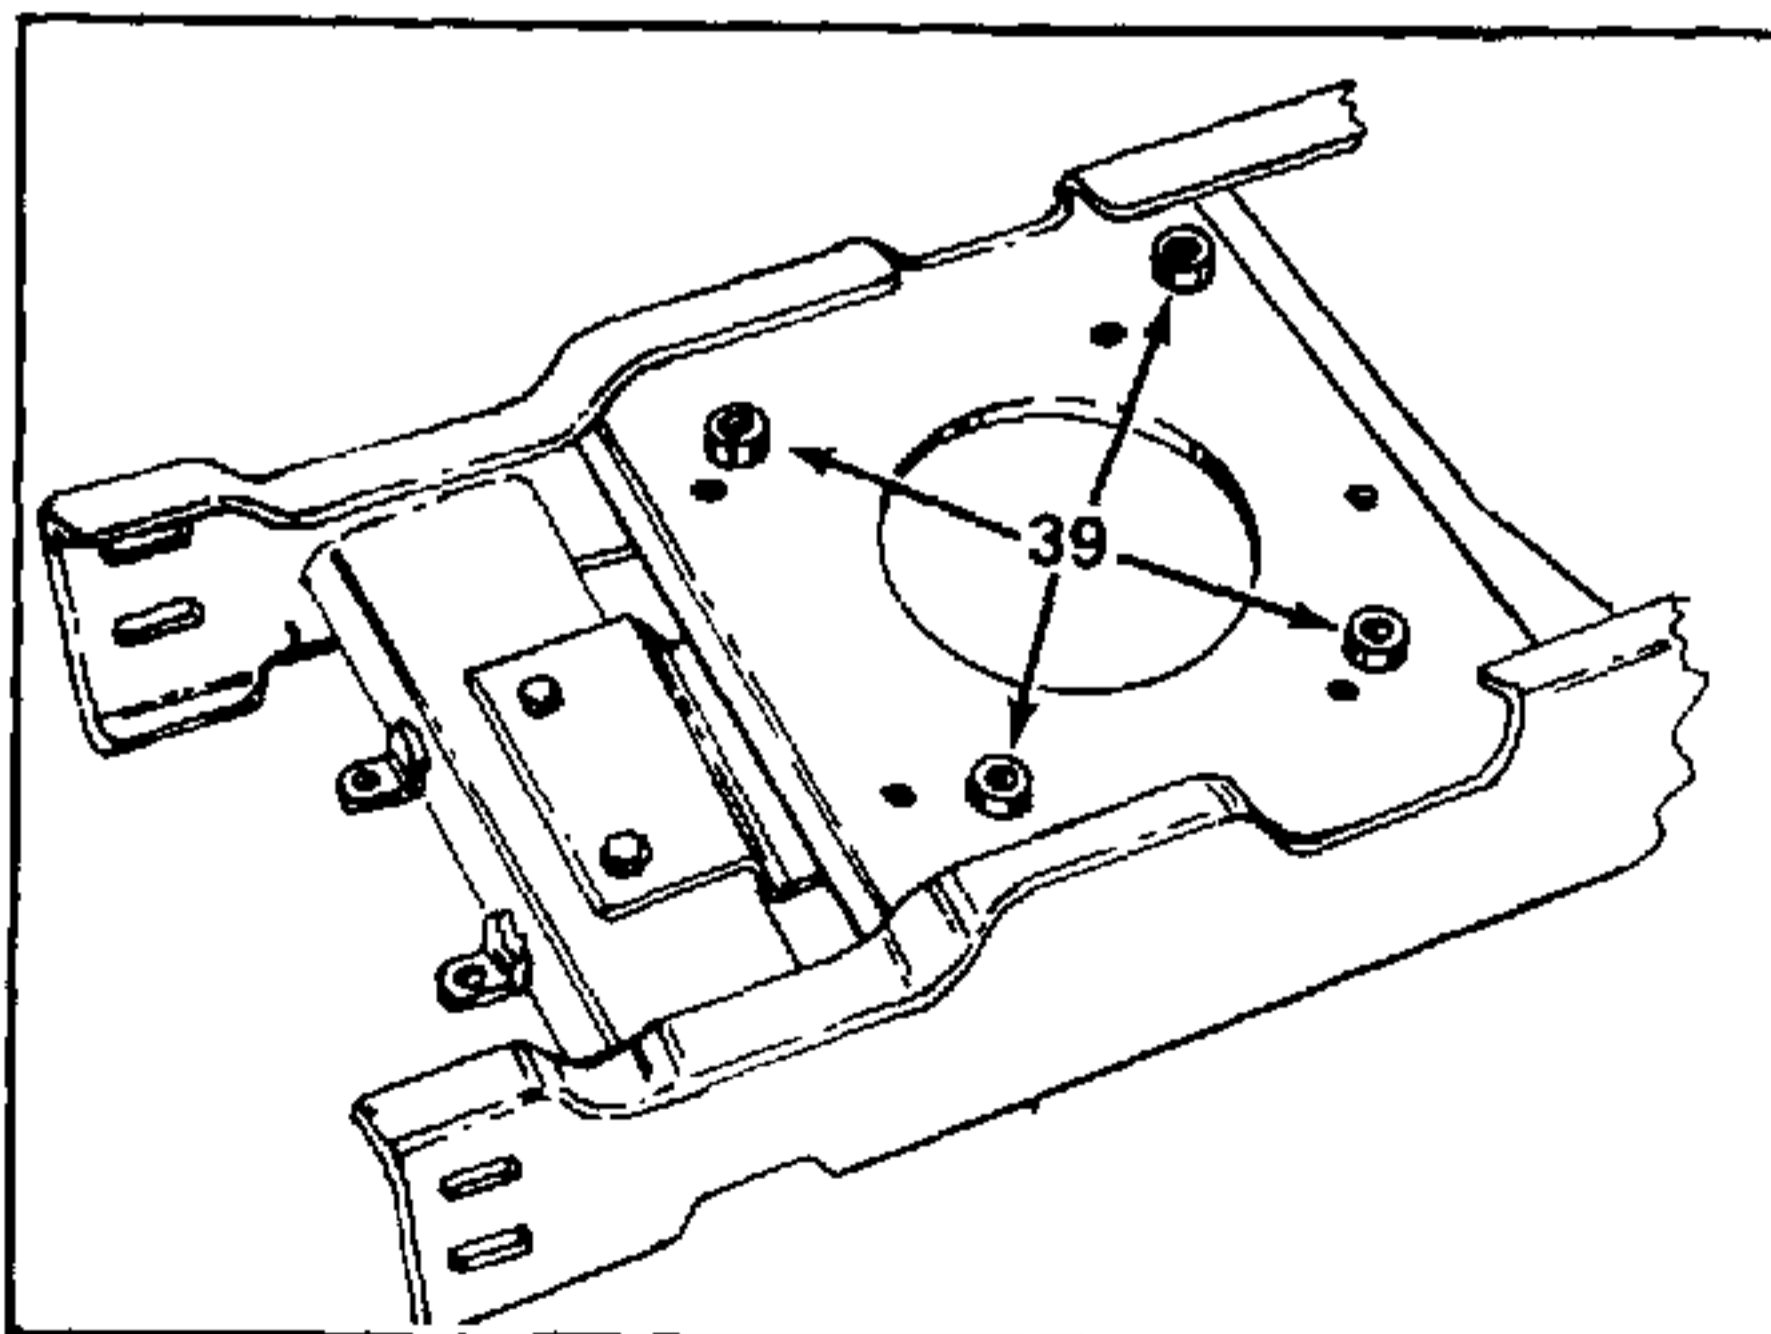

FIGURE 21.
19. Lift the engine up. NOTE: There are four engine spacers (Ref. 39) under the engine. Figure 21 shows correct holes for reassembly.